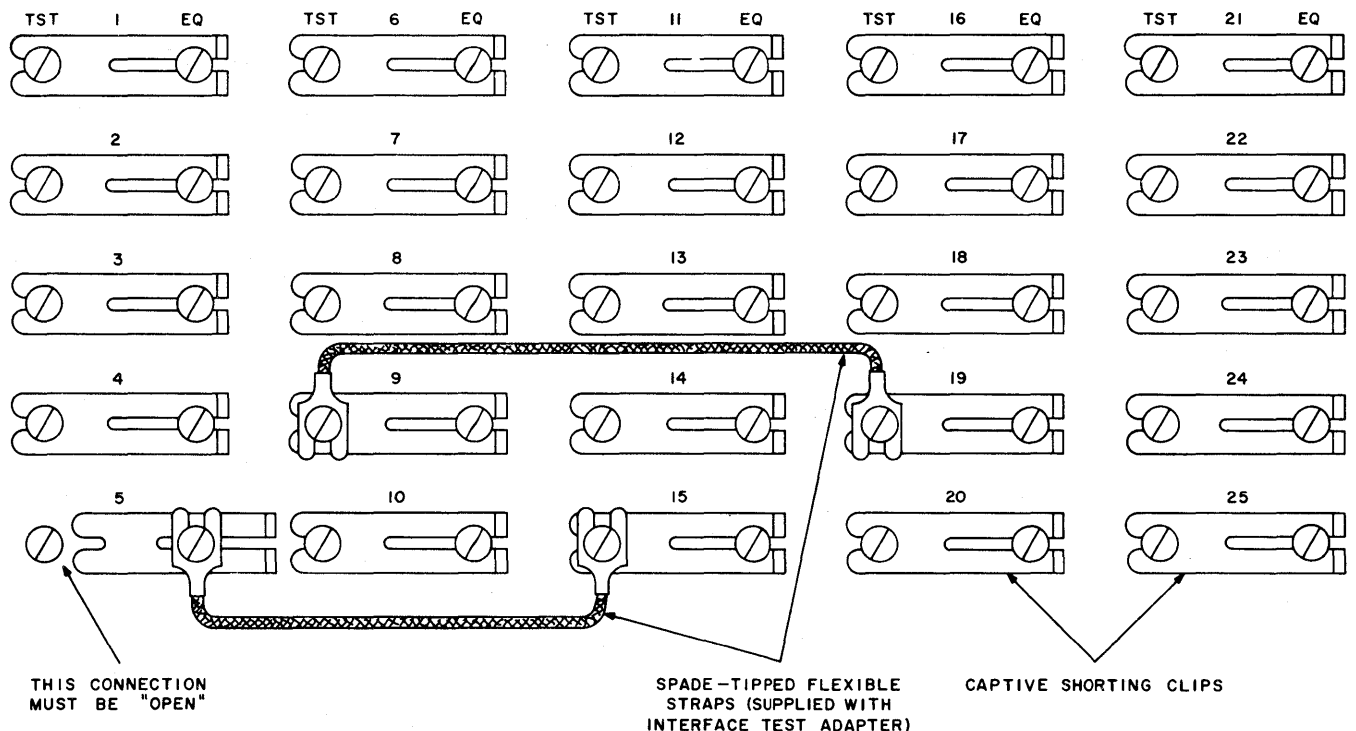

Fig. 2 — Interface Test Adapter, Connection Arrangement, Data Set 103A Type
**4.02** The interface test adapter (J79901B, List 3) must be arranged as shown in Fig. 2.
1	Connect interface test adapter (strapped per Fig. 2) to interface connector of data set.
(1) On the interface test adapter, strap terminals by use of spade-tipped flexible straps provided and as shown in Fig. 2. Open connection between terminals 5EQ and 5TST by moving captive shorting clip. Verify that all other captive shorting clips are arranged according to Fig. 2.
(2) Connect the interface test adapter to the interface connector of the data set (in place of the business machine cord).
(3) Connect 901B Data Test Set to connector of the interface test adapter.
(4) Run two leads from SIGNAL OUT terminals of 903 type Data Test Set to TRANSMIT DATA terminals of 901B Data Test Set. Connect red to red and black to black.
(5) Connect the power cord of 903 type Data Test Set to 117-volt ac outlet. Turn power switch ON.